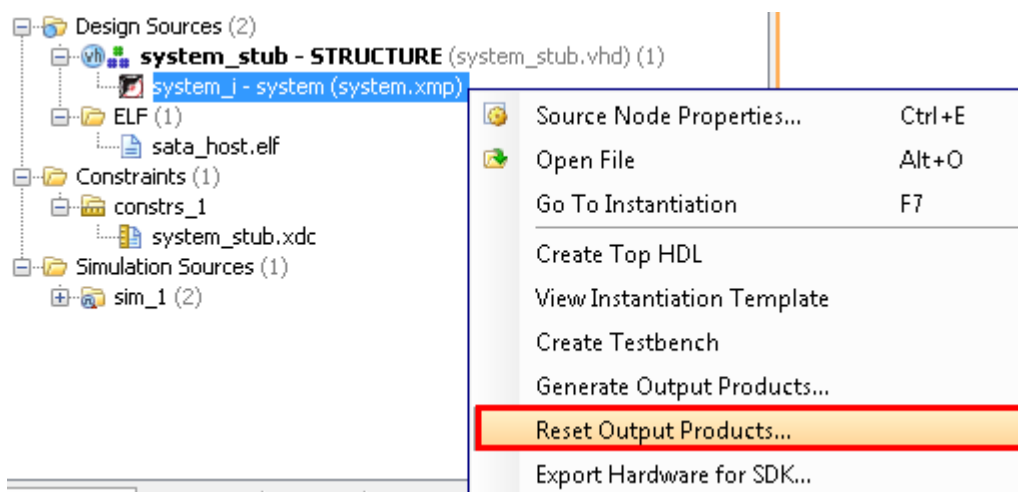

Figure 2-2 Reset EDK sub-system
- If EDK sub-system is modified, user should right-click at EDK icon and select “Reset Output Products...” to clean up sub-system netlist, as shown in Figure 2-2.